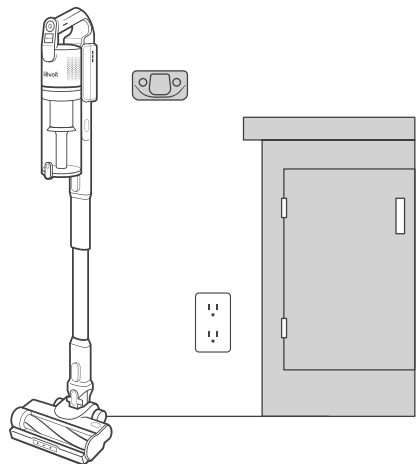

Figure 2.2
1. Install the wall mount by screwing it into the wall near a power outlet. **[Figure 2.2]**